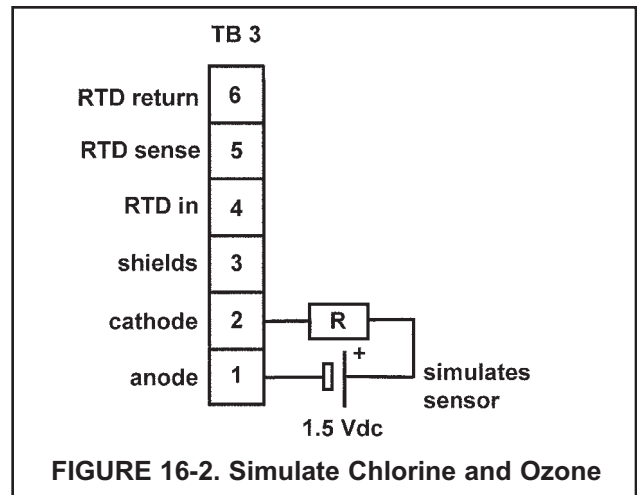

FIGURE 16-2. Simulate Chlorine and Ozone
- A. Disconnect the anode and cathode leads from terminals 1 and 2 on TB3 and connect a decade box and battery as shown in Figure 16-2. It is not necessary to disconnect the RTD leads.